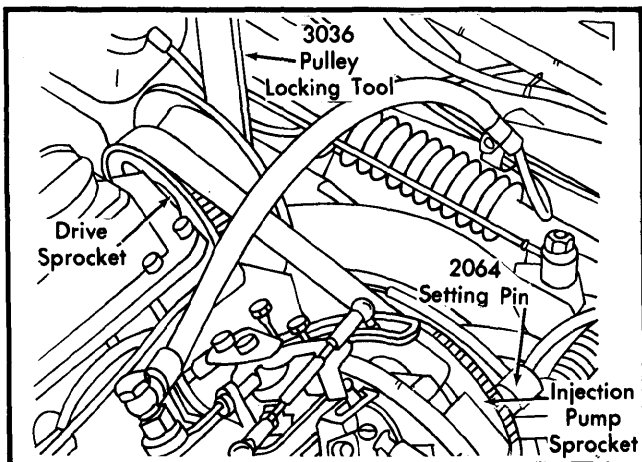

Fig. 8 Locking Injection Pump and Vacuum Pump Pulleys (Audi)
2) For Audi vehicles, remove vacuum pump pulley and drive belt and injection pump drive belt cover. Set crankshaft at TDC for No. 1 cylinder and align marks on flywheel and clutch housing and injection pump sprocket and mounting plate. Install special tool (2064) to lock injection pump sprocket securely. Lock vacuum pump belt pulley and injection pump drive sprocket with special tool (3036). See Fig. 8. Loosen and remove retaining bolt and remove drive sprocket and drive belt. Proceed to step 4).